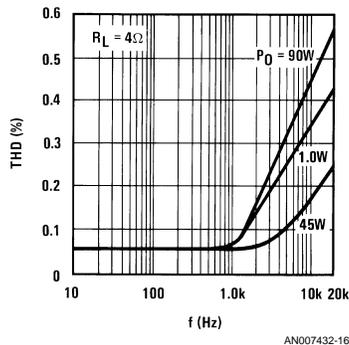

FIGURE 16. Distortion vs Frequency, $R_L = 4\Omega$
- ii) Distortion measurement: distortion versus frequency and power is plotted in Figures 16, 17.